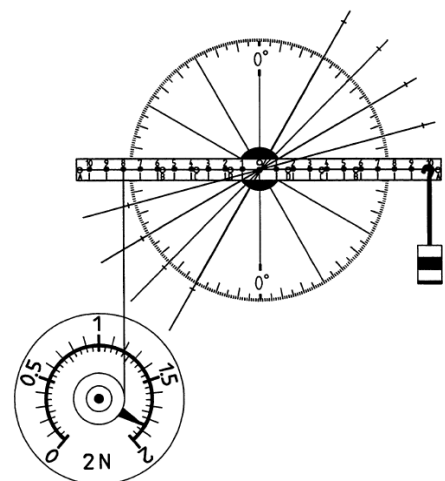

Fig. 2: Experimental setup
- Using the ruler, draw lines through the centre of the disc that form angles of 15° , 30° , 45° and 60° with the horizontal line and - seen from the centre - are about 22 cm long (see Fig. 2).
- Move the dynamometer until the lever is horizontal and the pull cord of the dynamometer is perpendicular to the lever (Fig. 2).